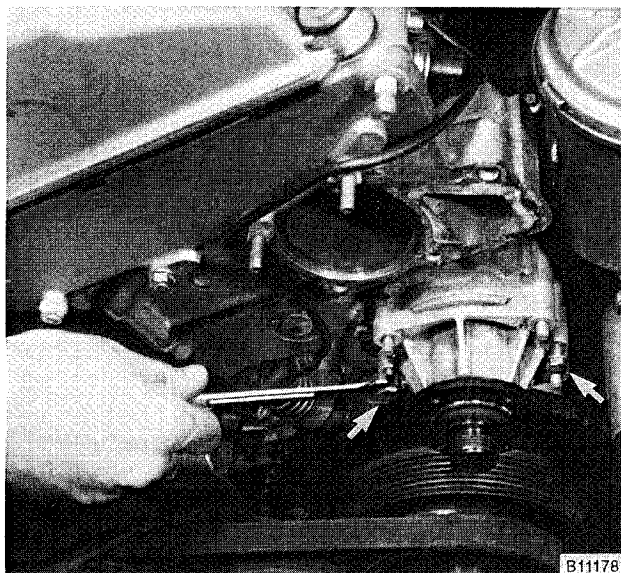

Fig. 19. Coolant pump being removed. Thread two M6 bolts (arrows) in evenly to withdraw pump. (Thermostat and hoses have been removed for visual access.)
7. Insert two screws (M6) in tapped bores and tighten uniformly until pump is free from timing chain cover. See Fig. 19.